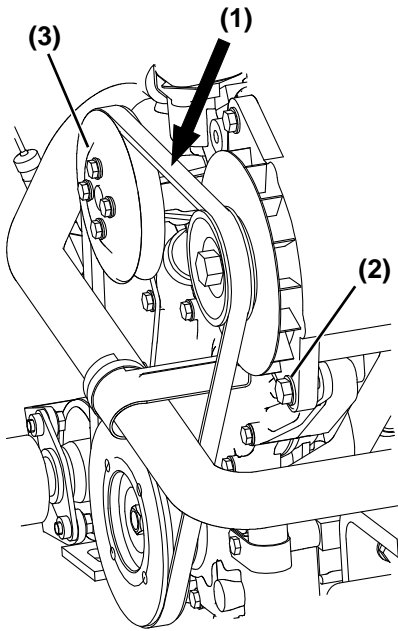

Figure 3
2. Check the belt by pushing on the middle of the belt (**Figure 3, (1)**) with your finger.
3. Loosen the alternator bolt (**Figure 3, (2)**) and move the alternator to adjust the V-belt tension.
Note: If replacing the V-belt, loosen the V-pulley (**Figure 3, (3)**) of the coolant pump to remove the V-belt.